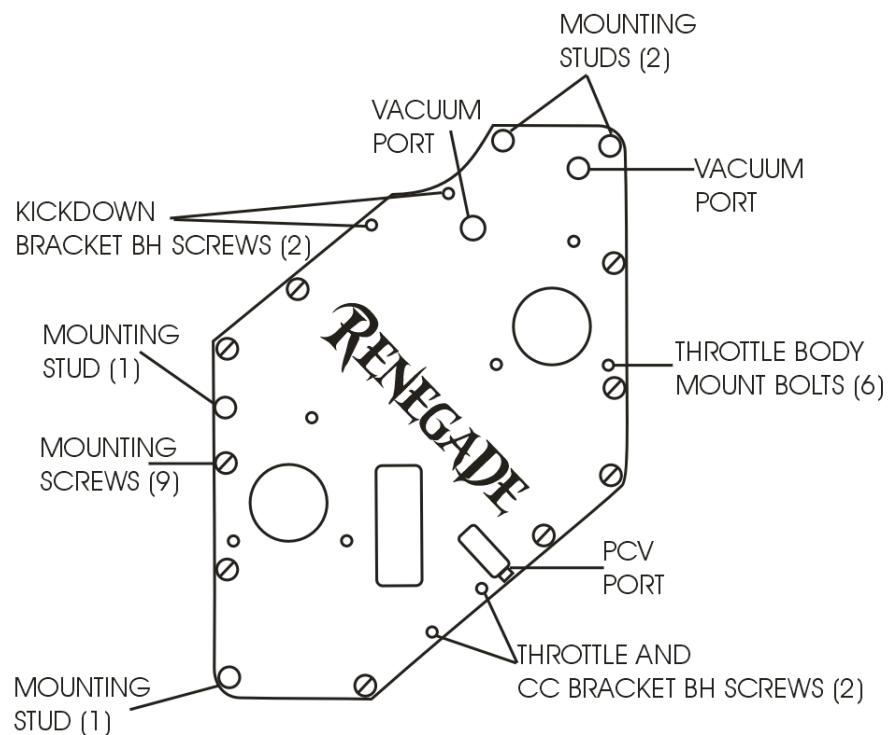

Fig. 1 Manifold Top Plate
6. Install manifold top plate (**Figure 1**) use the supplied 1/4 20 screws and studs as needed. Apply a suitable bead of Permatex® Ultra Blue RTV® or any good gasket type sealant around the flat edge of the lower manifold to form a good gasket. **NOTE: If you apply too much sealant it will ooze out the sides and make a mess.** Using the supplied hardware, loosely insert and start all the screws and studs as needed to obtain the proper fitment. Once the screws are all installed, starting from the inner screws and working your way outward, torque screws to 215in/lbs. It is also recommended that you put a small amount of Permatex® medium strength Threadlocker Blue Gel™ or equivalent thread sealant on each screw thread to keep them from backing out.
7. Install all other remaining hardware, water thermostat, water neck, distributor, brackets, vacuum fittings and tubes, tachometer ballast etc... from the stock manifold in the provided holes in Renegade manifold and top plate. Install the PCV valve hose nipple from the stock manifold into the plate top provided, raised port in front, see (**Figure 1.**). Attach supplied hose to nipple and PCV valve on drivers side valve cover. Install the remaining vacuum fittings from the stock top plate to the Renegade top plate taking care not to over tighten them.